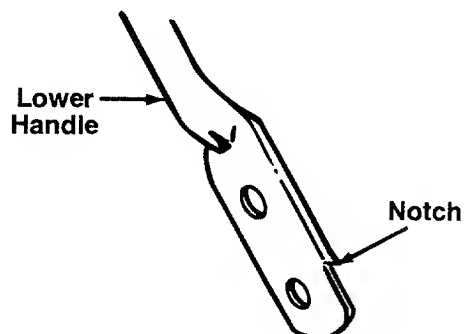

FIGURE 11.
- Turn the lower handle around so the notch on the bottom of the lower handle is facing forward as shown in figure 11. Reassemble, placing the bottom holes in the handle over the weld pins in the handle mounting bracket.